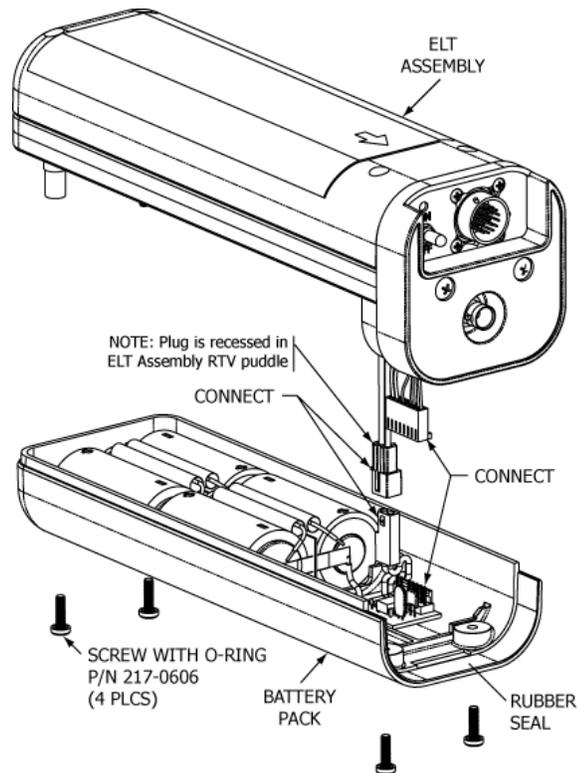

Figure 25 Battery Pack Installation
- 2) See Figure 25 Battery Pack Installation.